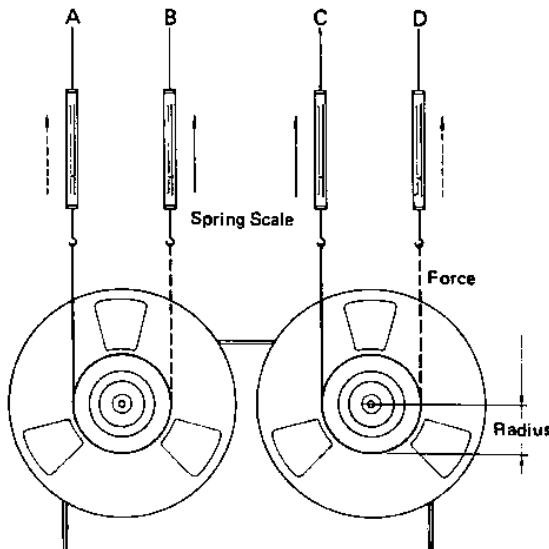

FIG. 16. BRAKE TORQUE MEASUREMENT
1. Mount an empty 10-1/2" reel onto either reel table and attach a spring scale to the reel with a string. See Fig. 16.
2. Smoothly pull the scale away from the reel under test and note the torque value when the reading on the scale is steady. Take the four measurements A through D shown in Fig. 16. The proper torque values are shown below the figure.
Forward Torque; B & C in Fig. 16	2100 – 2400 g-cm (29.2 – 33.4 oz-inch)